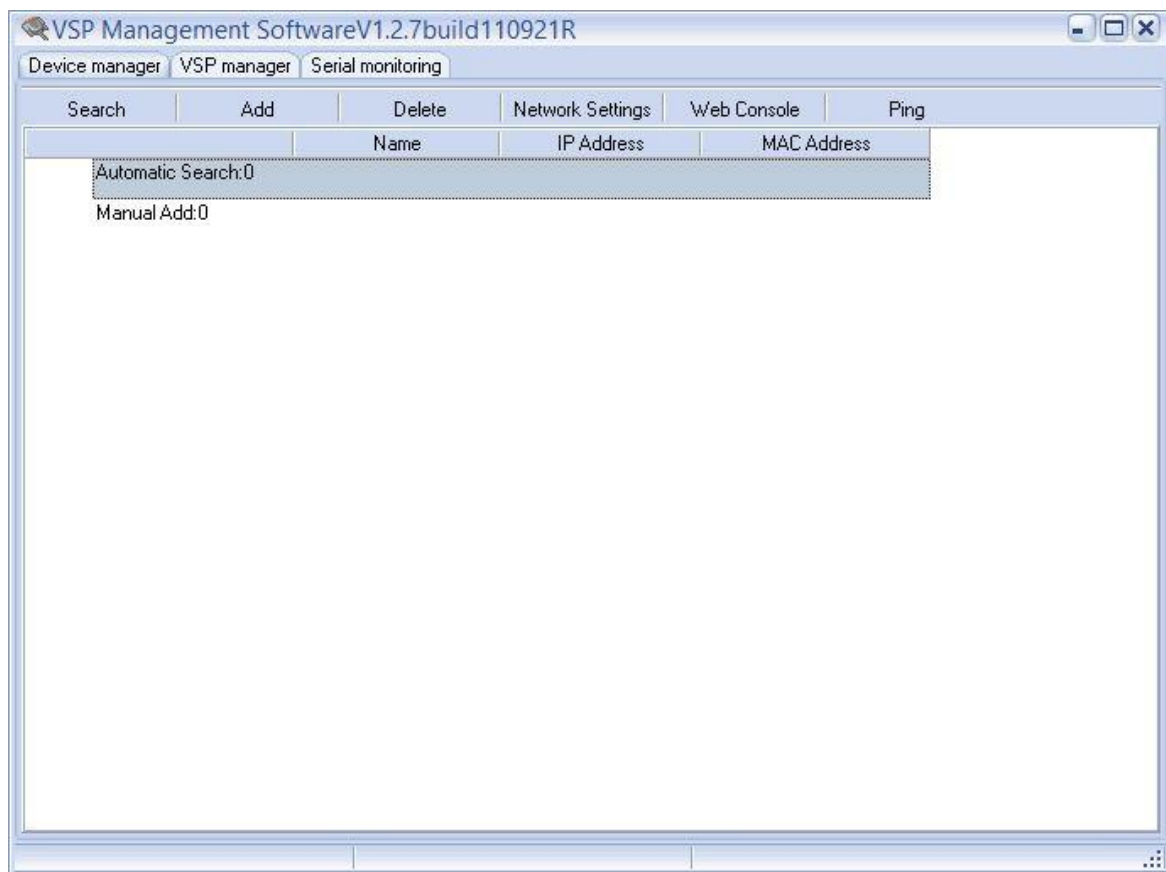

FIGURE 4.37 – VSP MANAGEMENT SOFTWARE
- 4) Run the VSP management software. (SEE FIGURE 4.37).